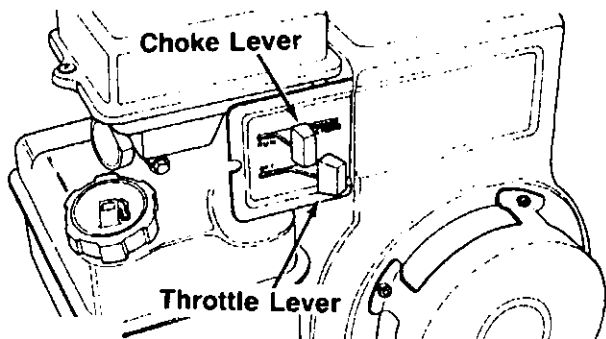

FIGURE 14.
1. Place throttle control lever on the engine in FAST position. See figure 14.